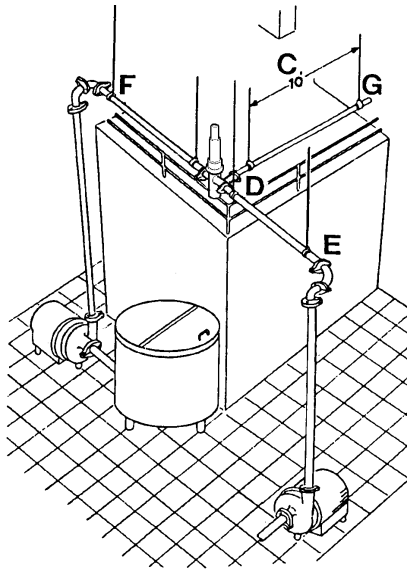

Figure 2 - Pipeline Support
1. Install supports at least every 10 feet on straight runs of piping (Figure 2, item C).
2. Install supports on both sides of the valves as close as possible to the connections (Figure 2, item D).
3. Install supports at each change of pipeline direction (Figure 2, item E and F).
4. For pipelines passing through walls, floors or ceilings, provide at least 1 inch (25 mm) of clearance around the pipe to allow for expansion and contraction (Figure 2, item G).